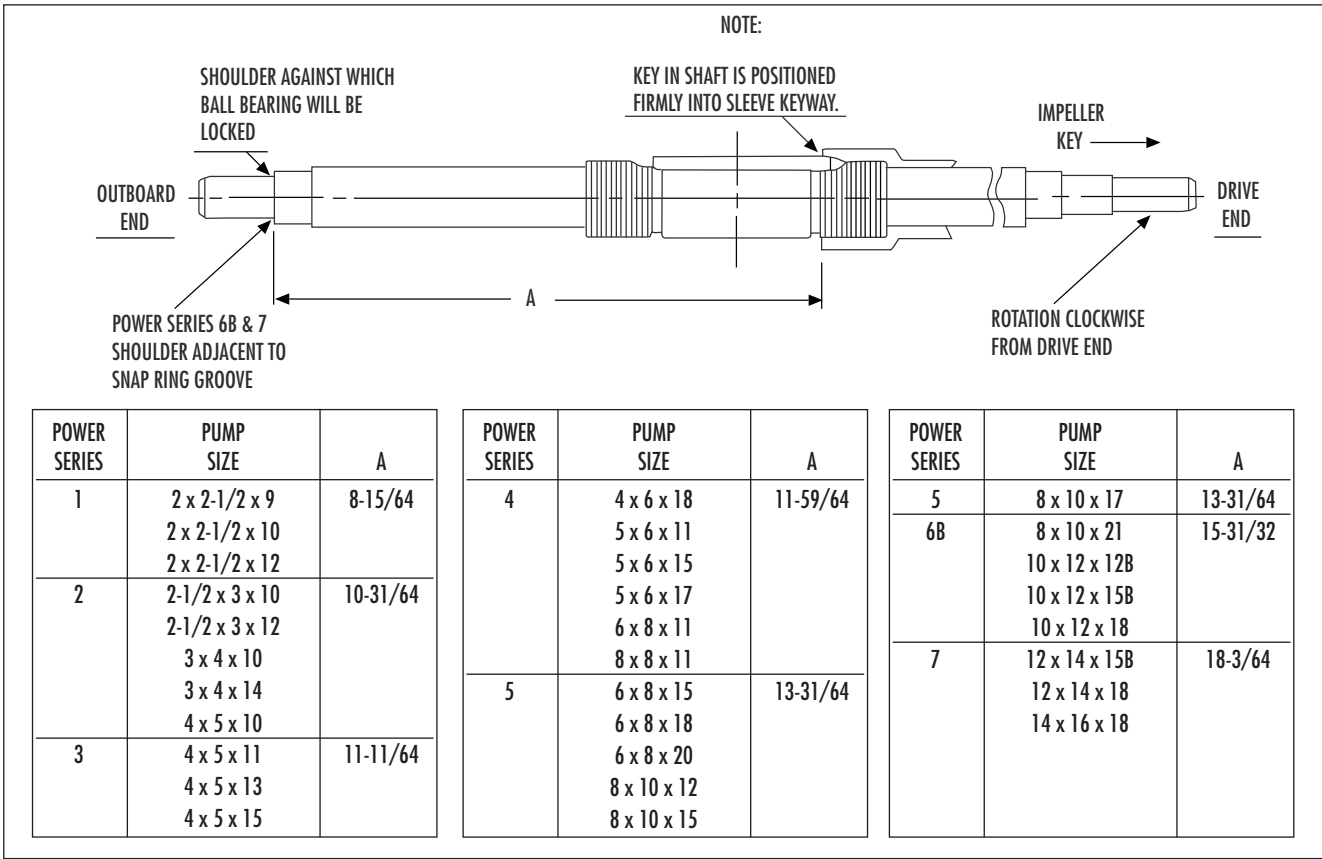
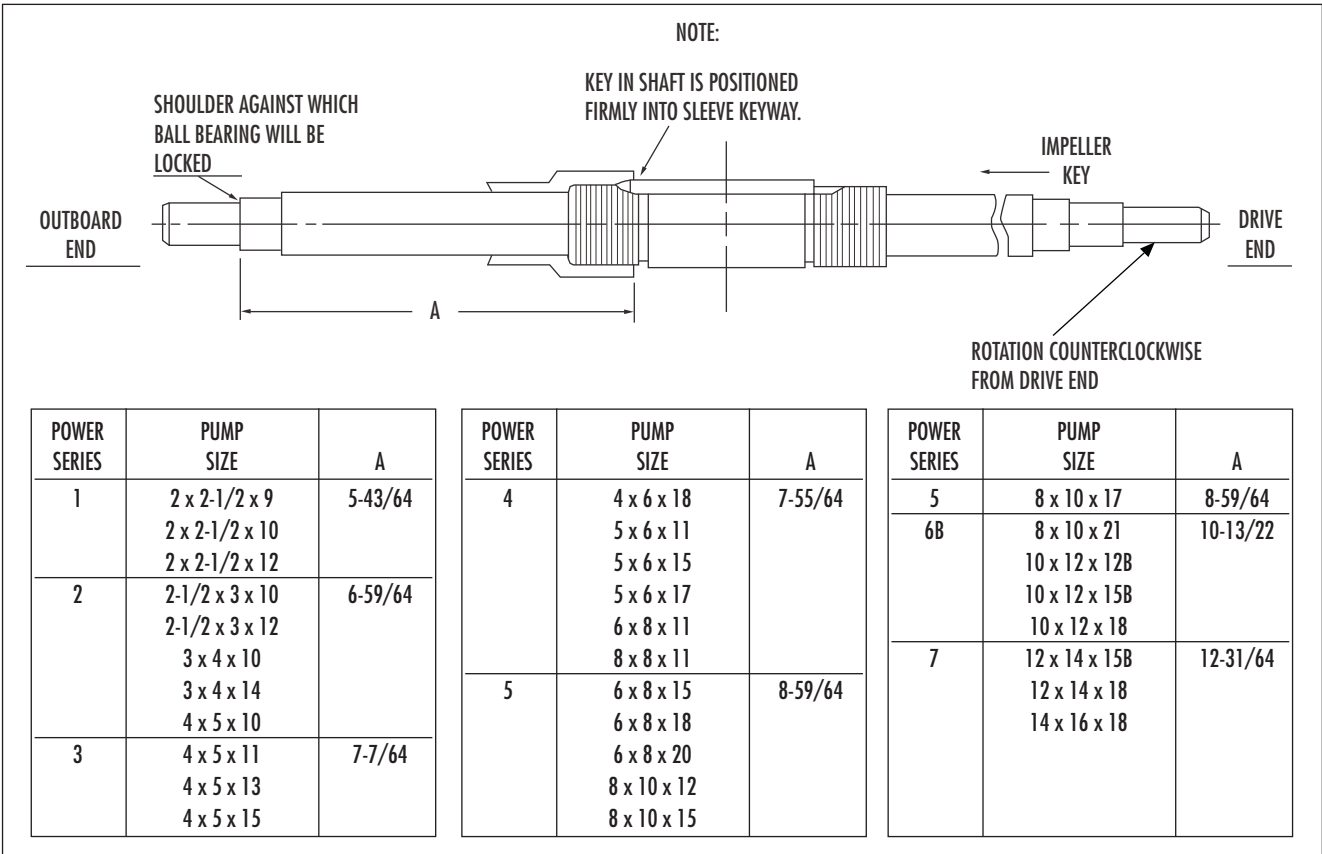

Figure 14. Locating shaft sleeve on shaft, **Right-hand Rotation.**
Figure 15. Locating shaft sleeve on shaft, **Left-hand Rotation.**
1. Position locating pins (67) in lower casing (69), adding swing bolt pins (68), if used on your pump. Install wearing ring pins (66). Tap pins gently to seat them in place. If nameplate (71) was removed, install it with screws (70). Install O-ring (58) in shaft sleeve (64).
2. On a right-hand unit, thread inboard sleeve (64) onto shaft (65) distance A (refer to figure 14) based on pump size. On a left-hand unit, thread outboard sleeve (57) onto the shaft a distance A (refer to figure 15). When the sleeve is in position its keyway should align with keyway on shaft. Coat key and keyway with Loctite® Sealant Grade 242. Insert key (63) into keyways of shaft and sleeve. Tap it firmly in place.
3. Coat inside diameters of impeller wearing rings (61) (optional) with Loctite Sealant Grade 271 and press them over hubs of impeller (59). Do not attempt to hammer impeller wear rings into position, since they are a press fit. Use of an arbor press is preferred. However, placing a block of wood over the impeller wearing ring and pressing it in will work satisfactorily. For power frames 5, 6B and 7 only, two setscrews (78) will be installed by drilling into wearing rings and impeller. The opposite surface of the impeller should be protected from damage throughout the procedures by resting it against soft wood on the surface of work bench.